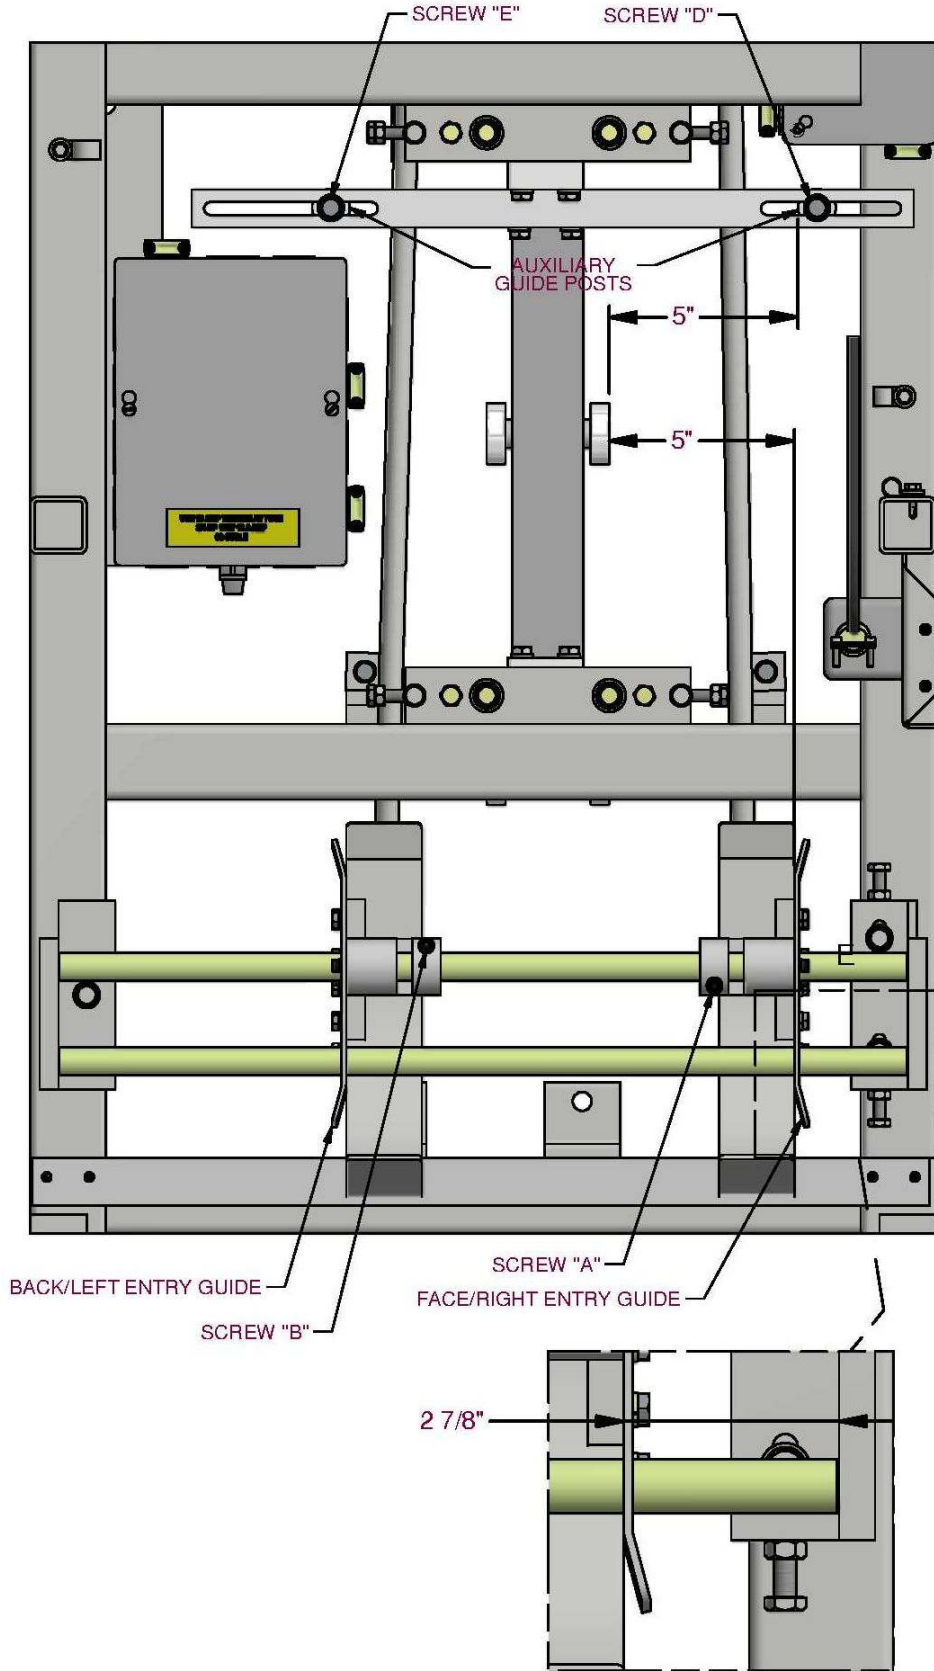
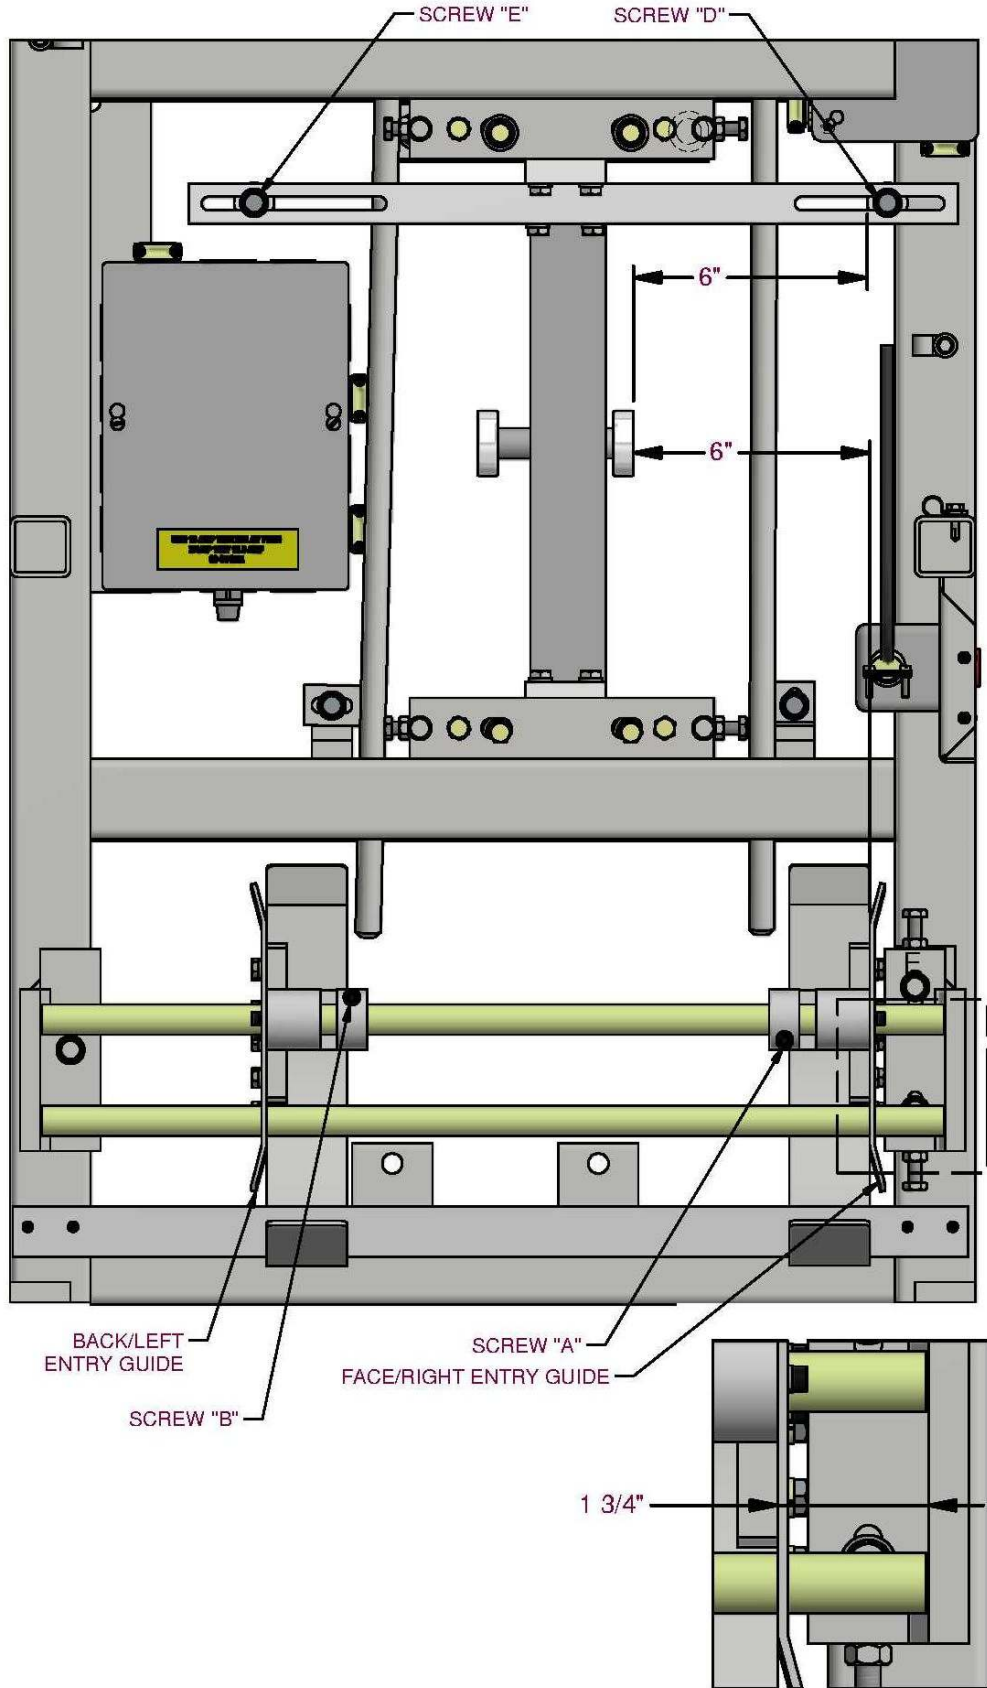
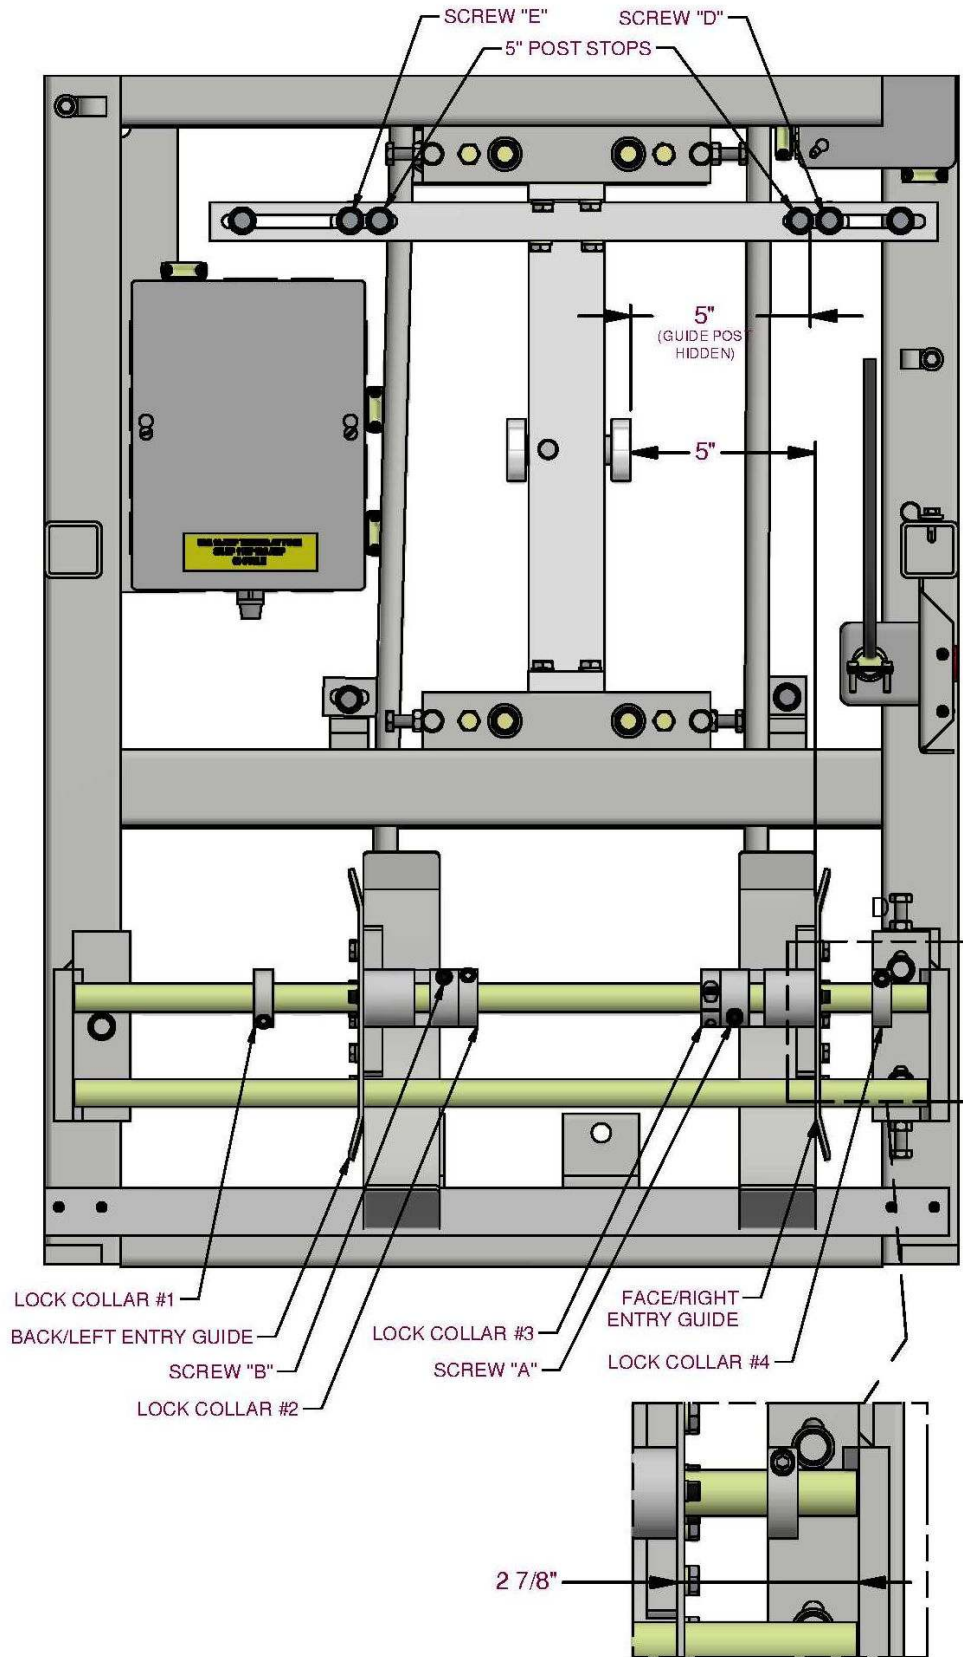
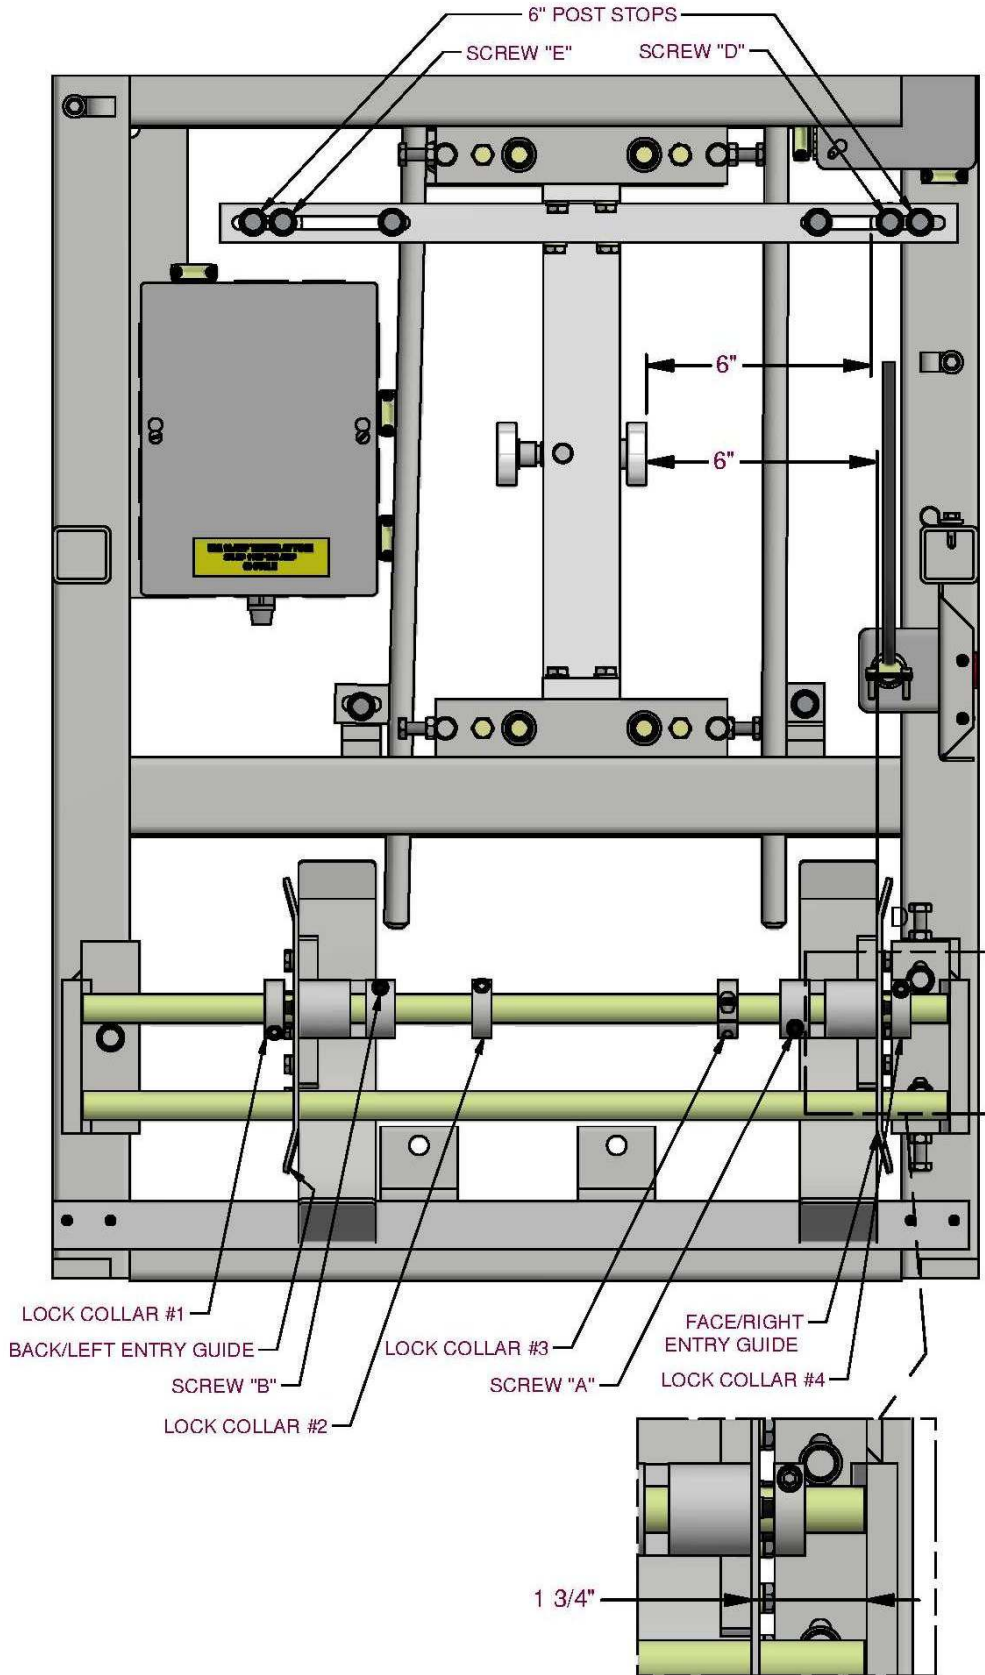

Figure 15: MG5 Entry Guide Setup
Figure 16: MG6 Entry Guide Setup
Figure 17: M56 Entry Guide Setup for 5"
Figure 18: M56 Entry Guide Setup for 6"
(Figure 15 - Figure 20)
1. Before moving the face/right entry guide, measure the distance between the face/right entry guide and the entry guide support shown as 2 7/8" in Figure 15 for the MG5 and 1 3/4" in Figure 16 for the MG6. This will give a reference point from which to start and a point to return to if the guide is moved in the wrong direction.
The stop collars should not be moved unless the lip needs to be increased or decreased. Before moving the stop collars, measure the distance between the face/right entry guide and the entry guide support as shown as 2 7/8” for the 5” position in Figure 15 and Figure 17, as well as, 1 3/4” for the 6” position in Figure 16 and Figure 18. This will give a reference point from which to start and a point to return to if the guide is moved in the wrong direction.